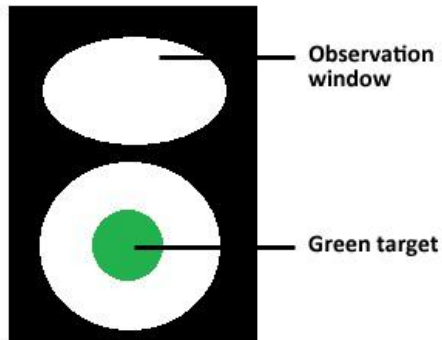

Figure 5
3.4 Viewing from Observation Window (see figure 5 below)